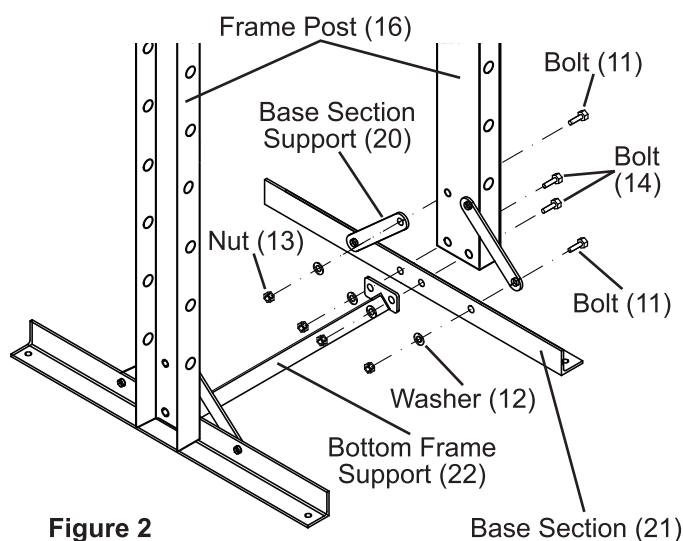
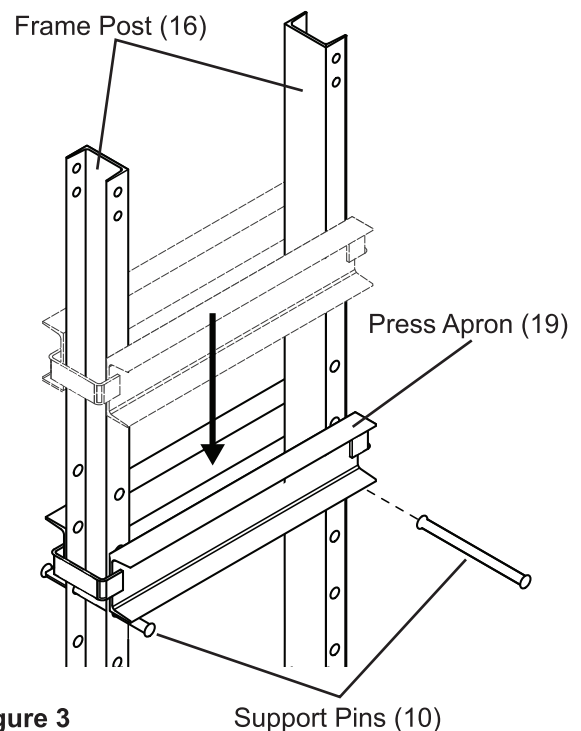

Figure 2
Figure 3
2. Attach the Base Section Supports (20) to the Frame Posts and Base Sections using the Bolts (11), Washers (12), and Nuts (13). See Figure 2.
3. Determine where the Shop Press will be located and bolt Base Sections (21) to the floor:
4. Slide the Support Pins (10) into the holes in the Frame Posts (16). With assistance, lift the Press Apron (19) to the top of the Frame Posts, then lower into place down the Frame Posts so the Press Apron rests on the Support Pins. See Figure 3.